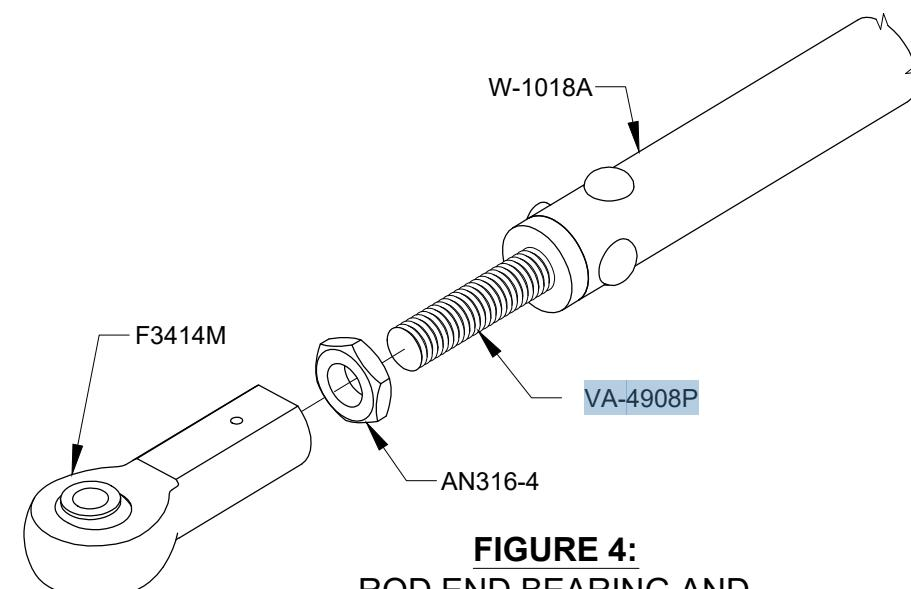

FIGURE 4:
Step 4: Install rod end bearings and jam nuts into the **VA-4908P** Threaded Rod Ends as shown in Figure 4. Theoretically the correct engagement of the rod end bearings yields a bearing center-to-bearing center length of 25 1/4 inches. The rod end bearing engagement may be adjusted during installation of the W-1018 Bellcrank to Aileron Pushrod.